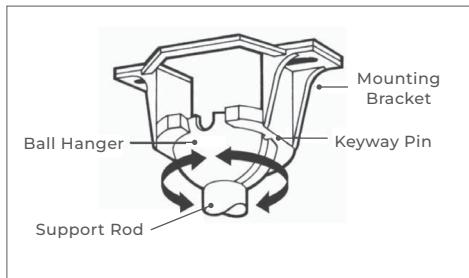

FIGURE 6
A) Notice the ball hanger is grooved on one side (Figure 6). This keyway fits over the small keyway pin on the inside of the mounting bracket and prevents the ceiling fan from spinning on the mounting bracket.